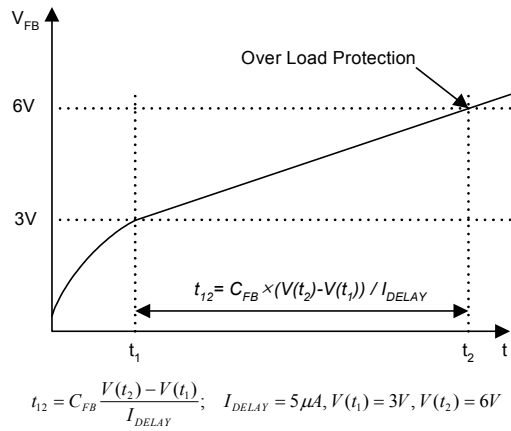

Figure 6. Over Load Protection (OLP)
**4.1 Over Load Protection (OLP)** : Overload is defined as the load current exceeding a pre-set level due to an unexpected event. In this situation, the protection circuit should be activated in order to protect the SMPS. However, even when the SMPS is operating normally, the over load protection (OLP) circuit can be activated during the load transition. In order to avoid this undesired operation, the OLP circuit is designed to be activated after a specified time to determine whether it is a transient situation or an overload situation. In conjunction with the Ipk current limit pin (if used) the current mode feedback path would limit the current in the Sense FET when the maximum PWM duty cycle is attained. If the output consumes more than this maximum power, the output voltage (Vo) decreases below its rating voltage. This reduces the current through the opto-coupler LED, which also reduces the opto-coupler transistor current, thus increasing the feedback voltage (VFB). If VFB exceeds 3V, the feedback input diode is blocked and the 5uA current source (IDE-LAY) starts to charge Cfb slowly up to Vcc. In this condition, VFB increases until it reaches 6V, when the switching operation is terminated as shown in Figure 6. The shutdown delay time is the time required to charge Cfb from 3V to 6V with 5uA current source.